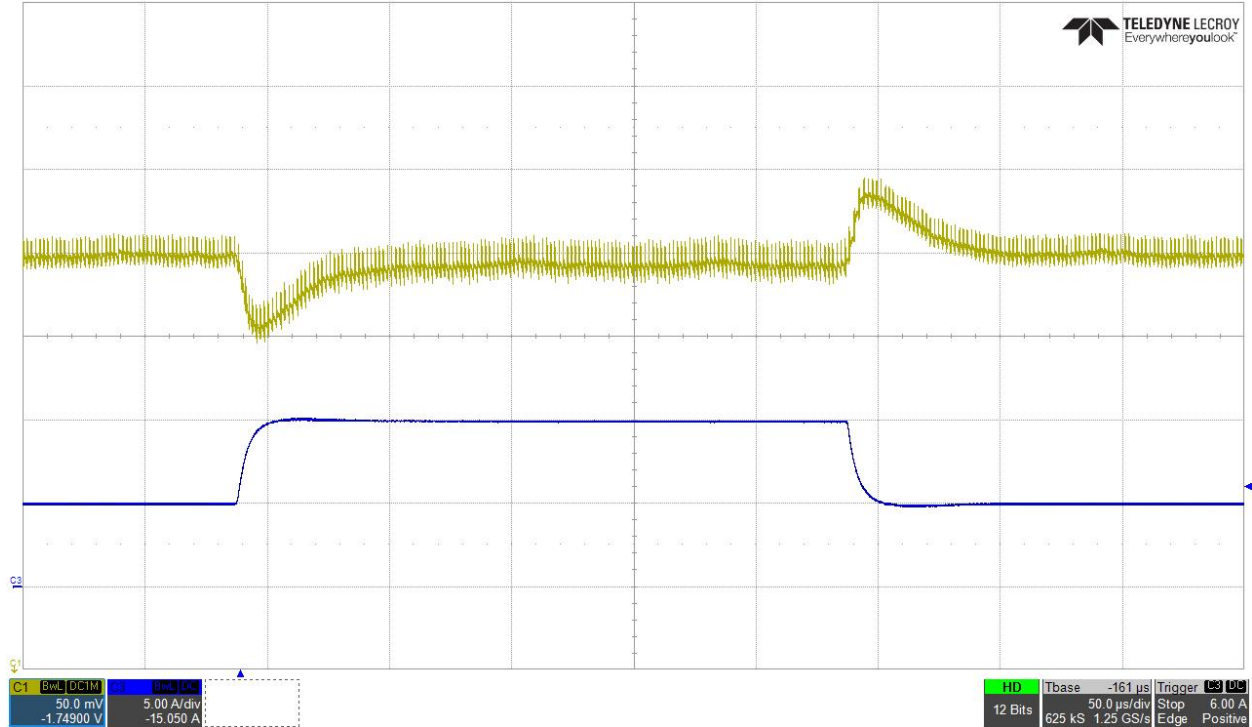

Figure 5. Load transient response showing  $V_{OUT}$  (C1) and  $I_{OUT}$  (C2).
- 6) Transient Load (**Figure 5**)
The overshoot and undershoot for a 5A transient load are shown in Figure 5. The output current is stepped from 5A to 10A with a slew rate of about 5A/ $\mu$ s. Both the undershoot and overshoot are under the maximum specification of 90mV.